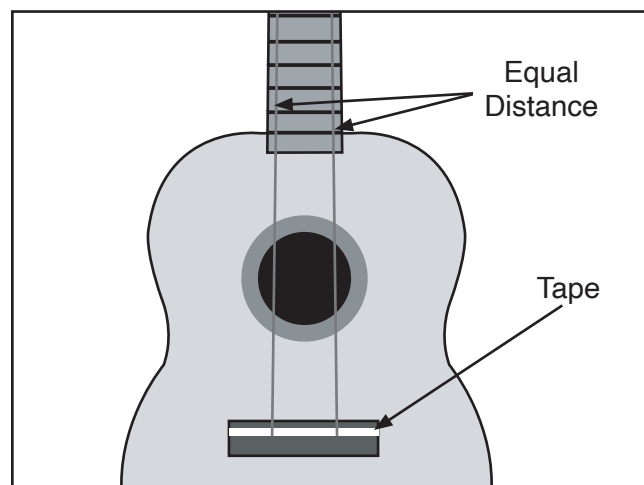

Figure 16. Centering bridge.
4. To correctly center bridge, attach (2) pieces of thread to 1st and 6th nut slots, then tape opposite ends to corresponding holes in bridge (see **Figure 16**).
5. Center bridge so there is an equal amount of space between fretboard edges and threads (see **Figure 16**).